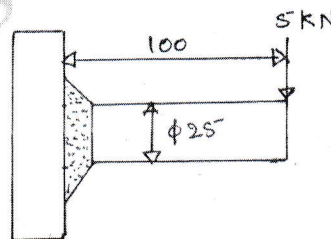

Fig. Q8 (b)
- b. A solid circular shaft 25 mm in diameter is welded to a support by means of a fillet weld as shown in Fig. Q8 (b). Determine the leg dimensions of the weld if the permissible shear stress is 95 MPa. (10 Marks)